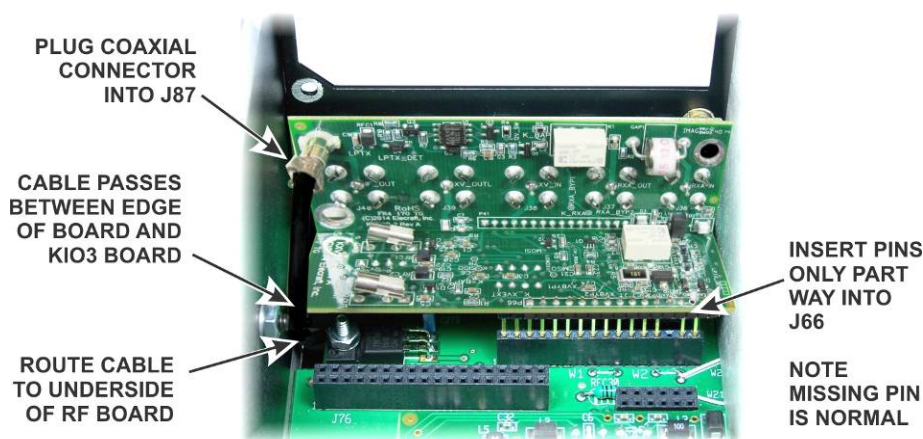

Figure 9. Mounting KXV3B Board.
- ☐ Fit the TMP coaxial connector onto J87 on the KXV3B board assembly (see Figure 9).
- ☐ Thread the square connector on the TMP cable through the gap between Q3 and the side of the RF board, then plug the KXV3B board assembly into J66 on the RF board with the BNC connectors facing out through the rear panel (see Figure 9). The pins will just clear the top of J66 when the BNC connectors are up against the top of the opening in the rear panel.